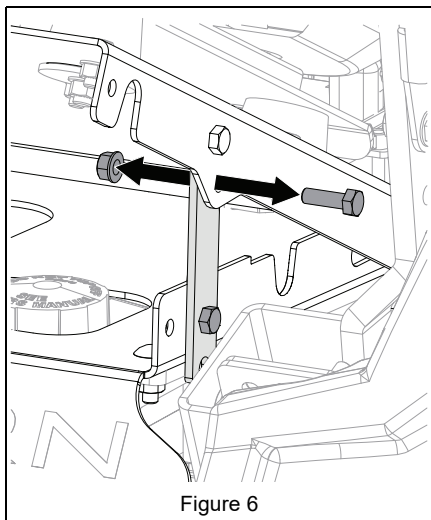

Figure 6
10. Remove and retain hardware securing seat to seat bracket. Repeat on opposite side of unit. See Figure 6.